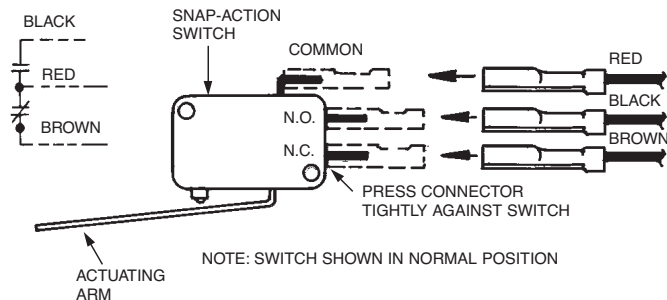

FIGURE 66
3. Press each wire assembly onto the 3-terminals located on the switch(s). Be sure that the connector is pressed tight against the switch. See Figure 66.